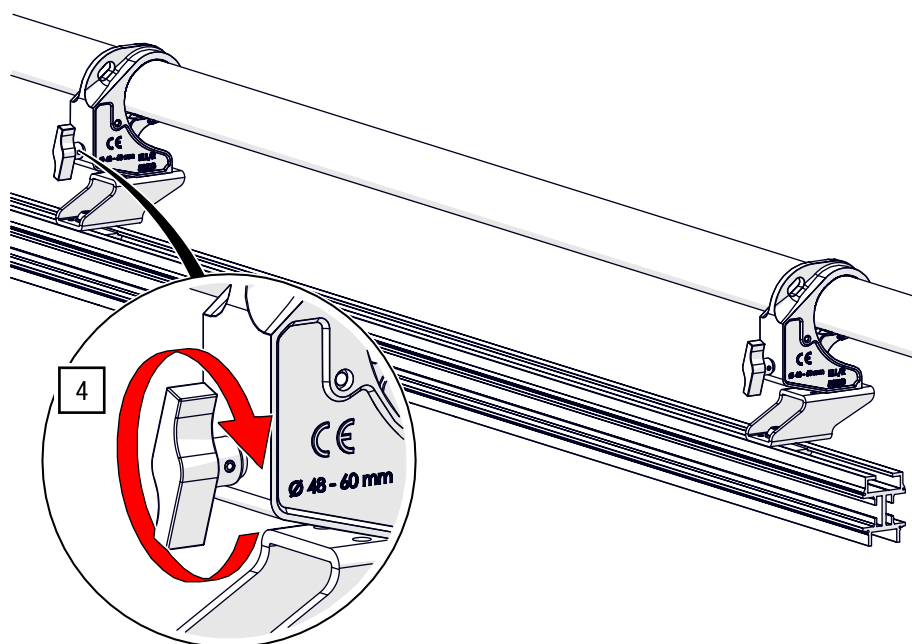

Fig. 54: G-CLAMP direct – Fasten on the pipe
4. Fasten the G-CLAMP hand-tight to the pipe (see Fig. 54).